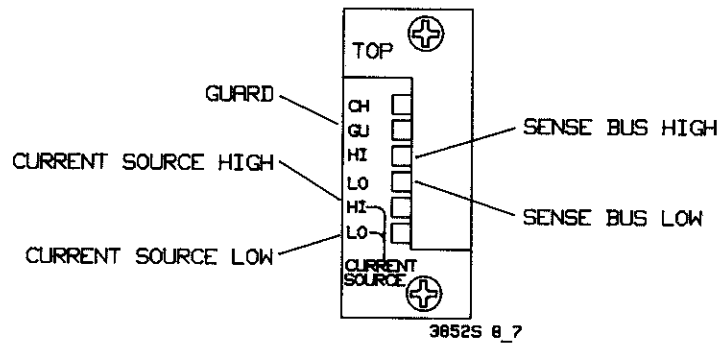
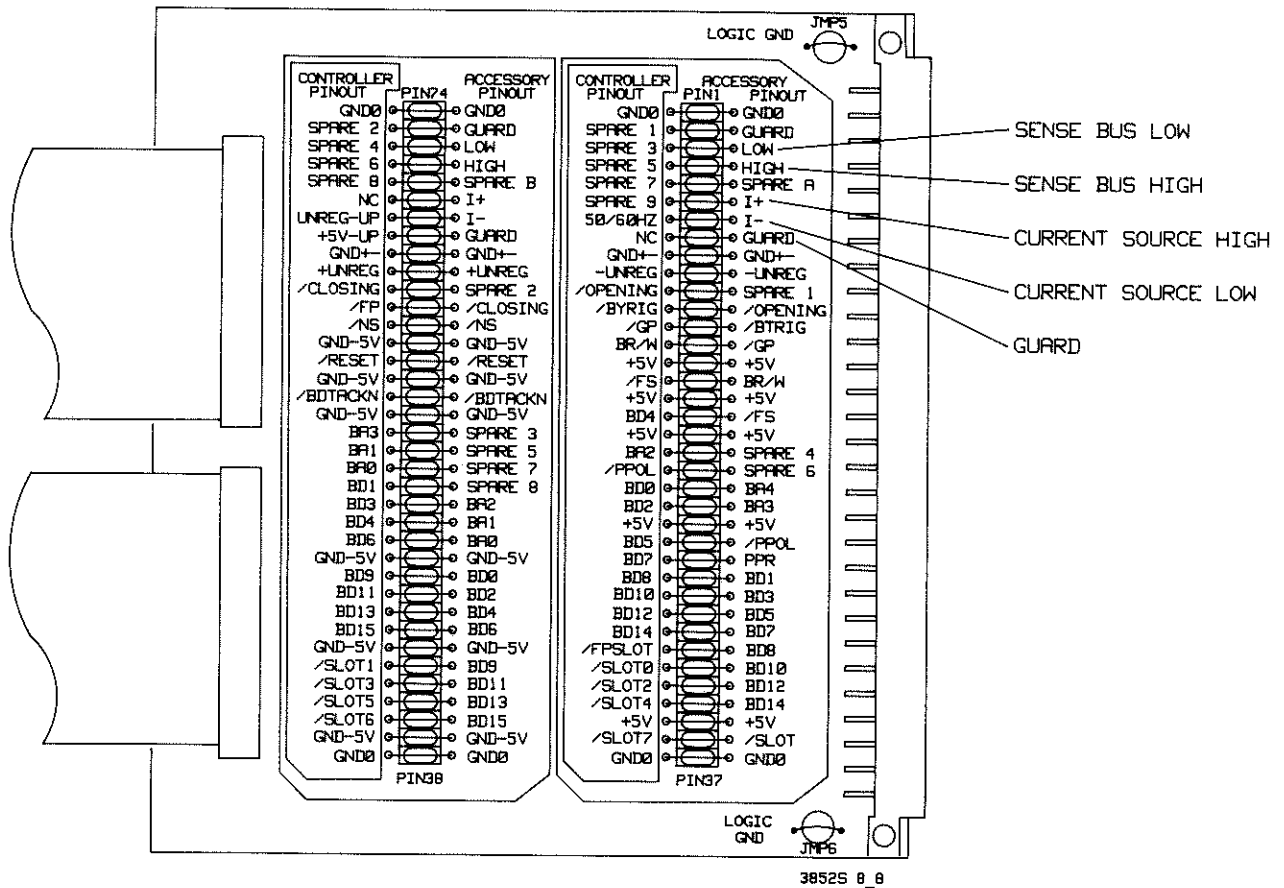

Figure 9-10 Analog Bus Connector
Figure 9-11 HP 44743A Service Module
*The backplane analog bus can be tested in one of two ways: 1) By connecting an external multimeter to the analog bus connector on the rear panel of the power supply module as shown in Figure 9-10, or 2) By connecting an external multimeter to the backplane analog bus line jumpers provided on the 44743A service module as shown in Figure 9-11.*